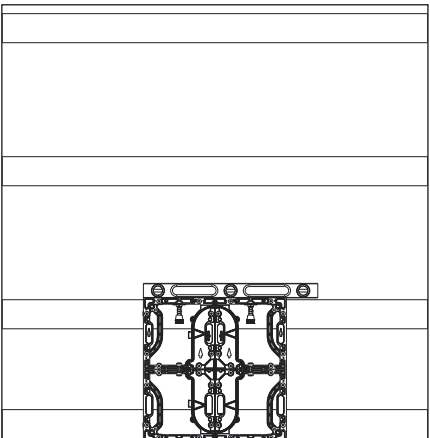

Figure 5: Install First Panel
1. Start the first panel (with the modules removed) at the middle of the bottom tube. Refer to Figure 5. Use a straight edge to position the panel so the bottom is flush with the bottom of the tube and does not hang below the bottom of the tube by more than 1/4" [6.35 mm]. The left and right edges of the panel should align with the dashed vertical lines created with the interference jig.